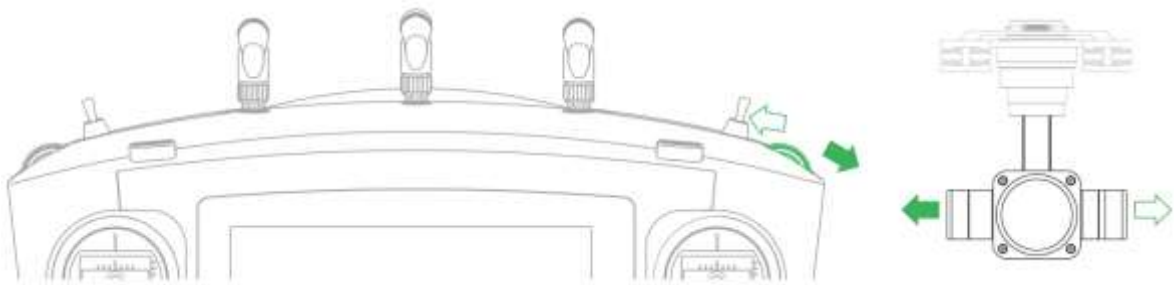

Figure 0-12
- PTZ course scroll wheel: control horizontal shooting angle of camera lens, as shown in Figure 0-12.